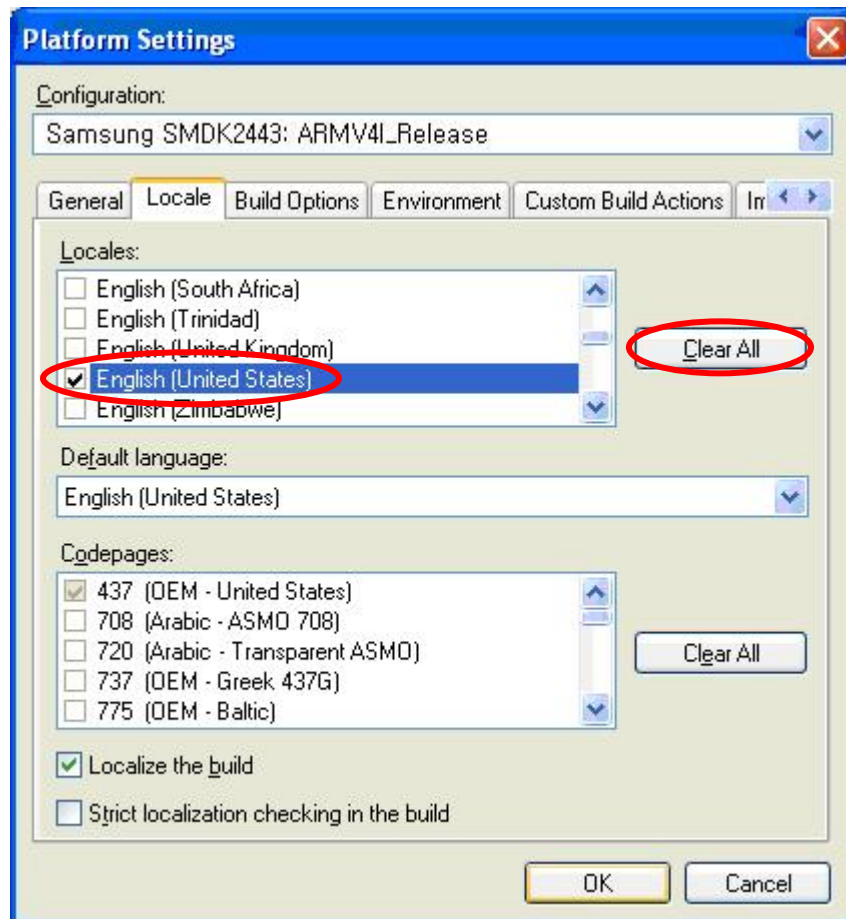

Figure 4-8 Selecting Language in the Platform Settings Window
7. The **Platform Settings** window appears on your screen. Select **Locale** tab and click **Clear All** button. It clears all the language settings in your platform. Now select **English (United States)** as shown in figure 4-8.